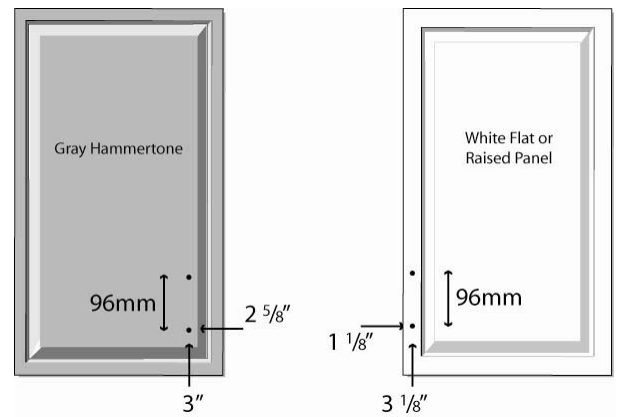

Fig. 5
Door handle holes are not pre-drilled. All three available door handles are based upon 96 mm center-to-center designs, and a hole pattern template is available for order from ClosetMaid. (Contact customer service.) Recommended handle placement varies between different door profile styles. (See Fig. 5.)
5. Mark location of handle holes using Fig. 5's measurements as a guide along with the handle template. Drill marked locations.